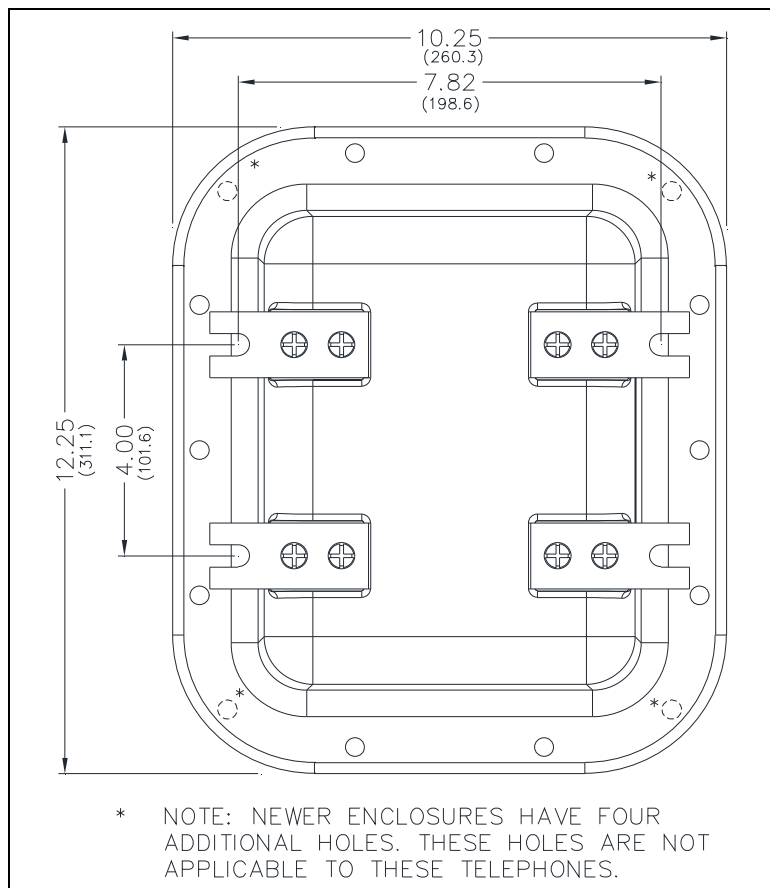

Figure 5. Model 352 Series Division 1 Telephone Enclosure—Mounting Details
- Stainless steel hardware is recommended for outdoor applications (see Figure 5).